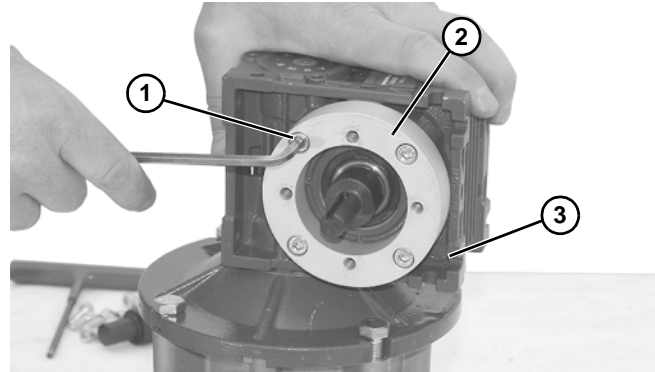

**Figure 26**
1. Remove screws (**Figure 26, item 1**) and gearmotor (**Figure 26, item 2**).